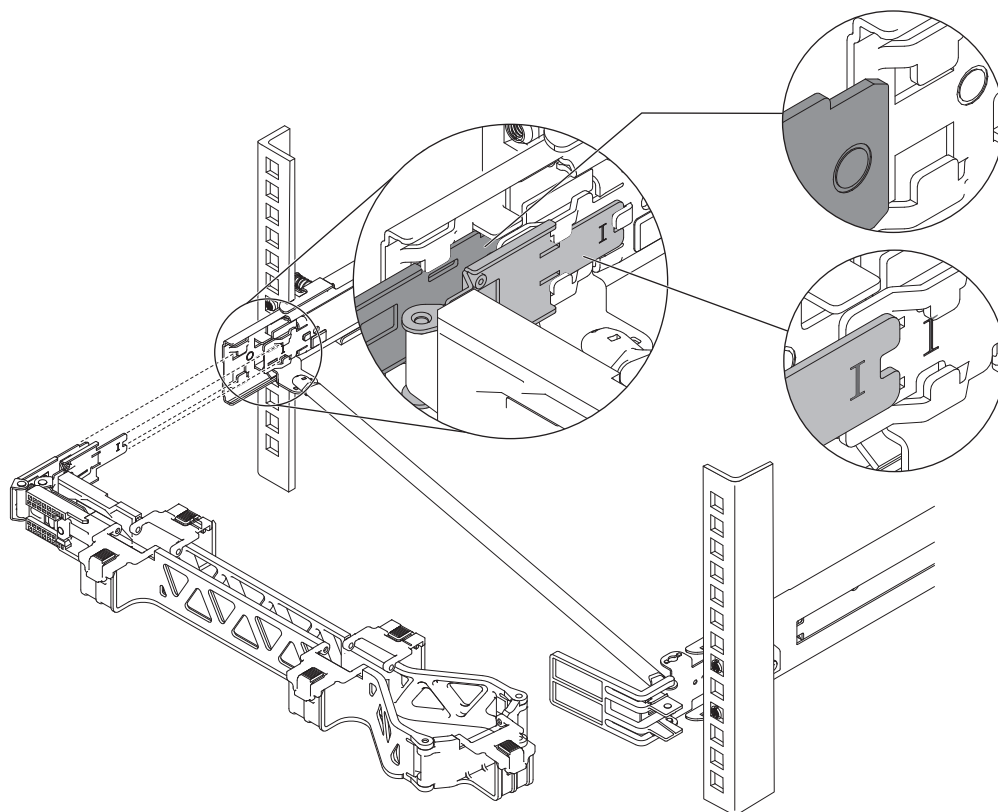

Figure 11. Removing the cable-management arm stop bracket
6. Remove the cable-management arm stop bracket, as shown by Figure 11 on page 20.